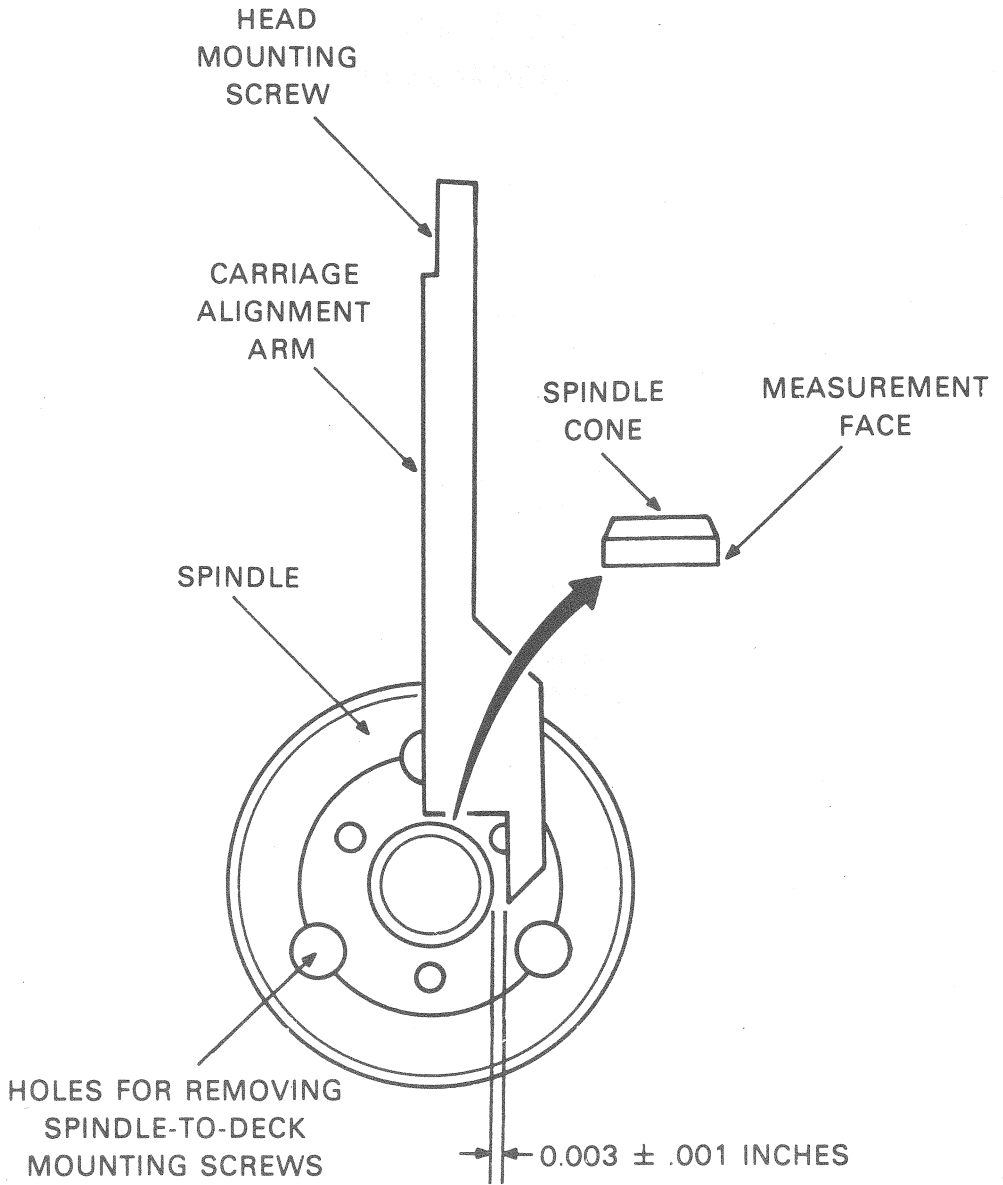

Fig. 1-32
3. Extend carriage until alignment arm is aligned as shown in figure 1-32.
7. Extend carriage until alignment arm is positioned as shown in figure 1-32.
8. Using a plastic faced hammer, gently tap spindle until dimension between alignment arm and spindle is as specified in figure 1-32.